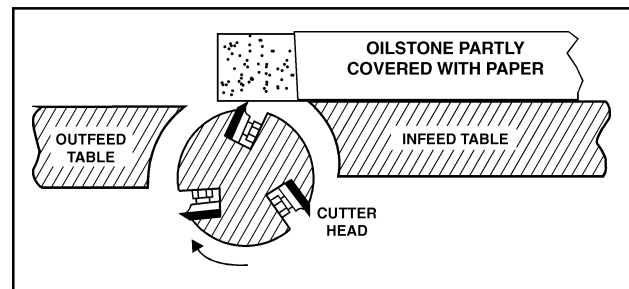

Fig. 30
3. To protect the infeed table from scratches, partially cover the sharpening stone with paper. (Fig. 30)